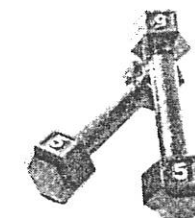

Fig. 16a Dumbbells
16. (a) ABC gym is interested in the fitness of youngsters. To promote fitness and spread awareness, it is decided to distribute 5,000 dumbbells (each of 5 kg) free of cost to various college students. The order for manufacturing 5,000 dumbbells is available with the foundry. Explain the procedure to be adopted by the foundry to manufacture the dumbbells (Fig.16a) using green sand molding process.